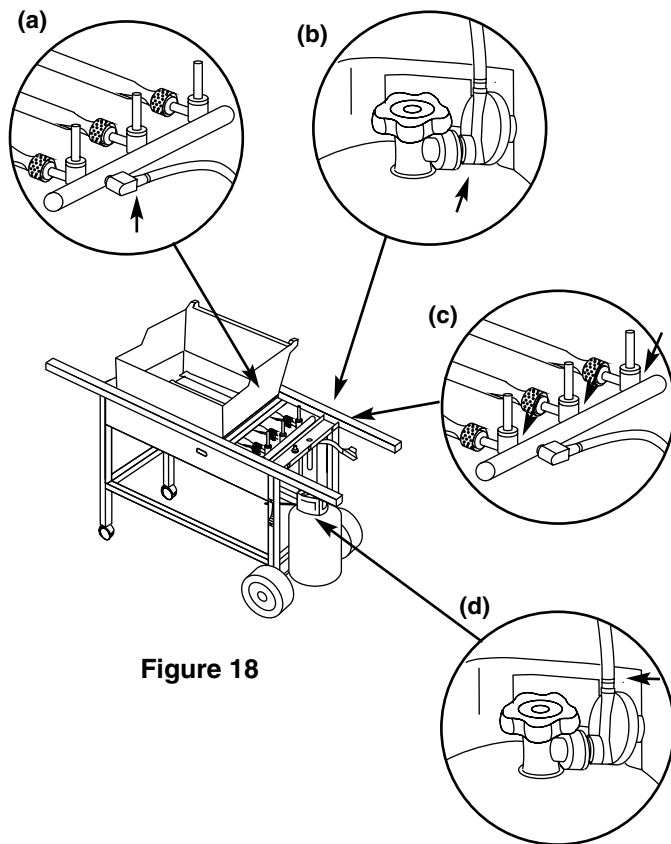

Figure 18
- a) Hose to manifold connection. Figure 18 (a).
- b) Regulator to tank connection. Figure 18 (b).
- c) Valves to manifold connections. Figure 18 (c).
- d) Hose to regulator connection. Figure 18 (d).